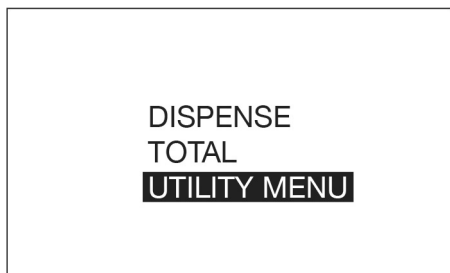

FIG. 23
- Use the UP or DOWN ARROW button on the keypad to highlight UTILITY MENU (FIG. 23) and then press the center ENTER button on the keypad to select the UTILITY MENU option.